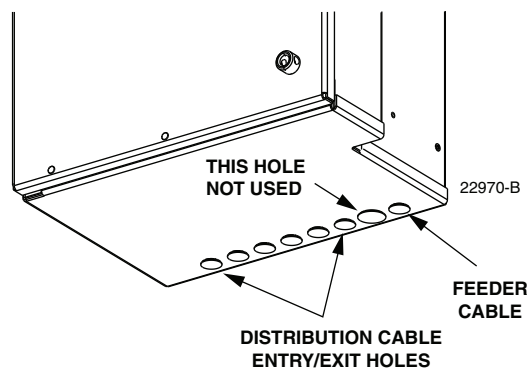

Figure 54. Distribution Cable Entry/Exit Holes
2. Locate the cable entry/exit holes (on the bottom of the cabinet) that are specified for distribution cable installation as shown in Figure 54.